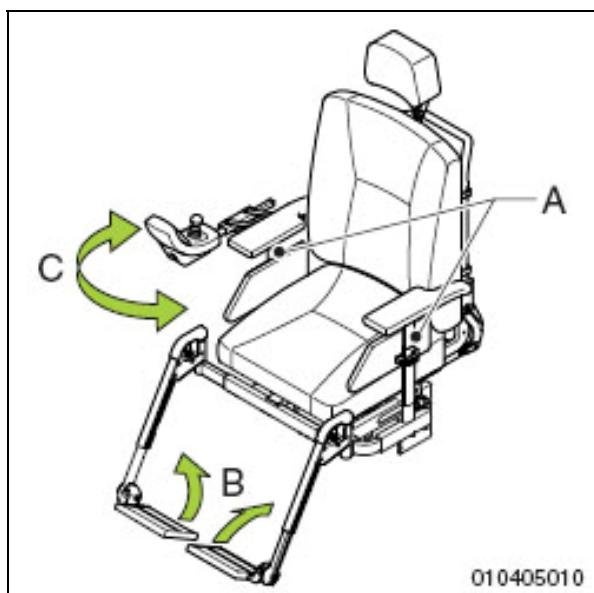
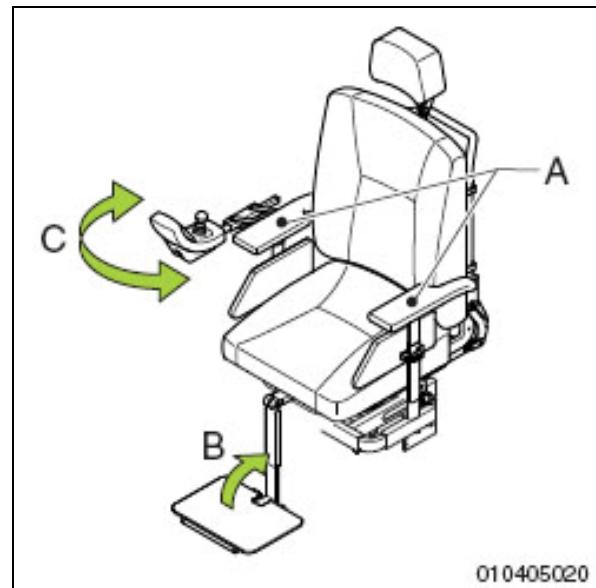

Figure 3.1
Figure 3.2
1. Fold up the foot support (B in fig. 3.1 and fig. 3.2)
1. Loosen the star knob and remove the armrest (A in fig. 3.1 and fig. 3.2).
Depending on the version of the controller and the location of the transfer, it can be necessary that the controller be swung away (C in fig. 3.1 and fig. 3.2).